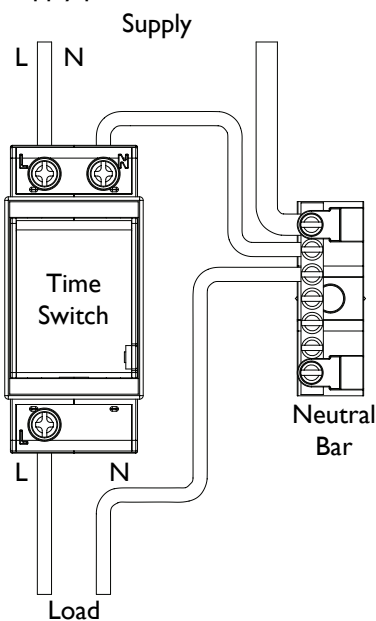
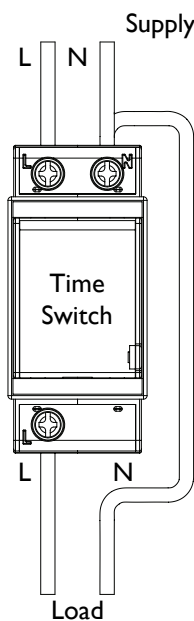
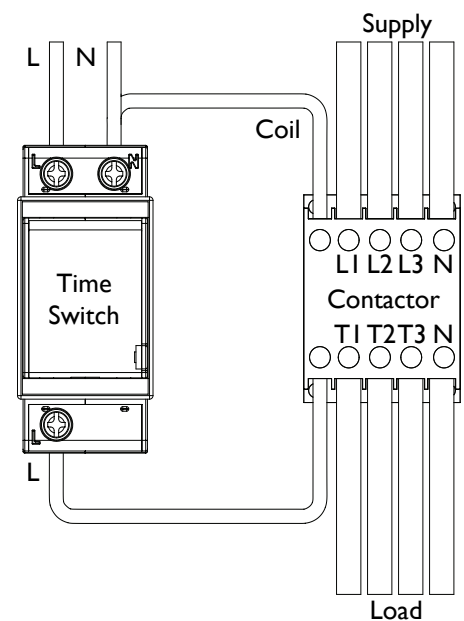

Figure 1: DB wiring
Figure 2: Stand alone wiring
Figure 3: Wiring a contactor for loads greater than 21 A resistive or 10 A inductive
3. Connect the time switch according to Figure 1 or Figure 2. Use a suitable contactor (Figure 3) if necessary to switch higher current. Strictly obey markings for Line and Neutral poles.